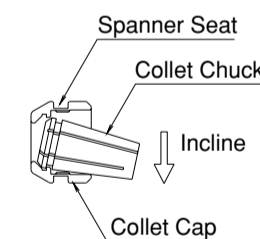

Fig. 5
- ② When removing the collet chuck from the collet cap for cleaning or replacing, hold the collet cap in one hand and incline the collet chuck toward the spanner seat. (Fig. 5)
- ③ To mount the collet chuck, incline the collet chuck toward the spanner seat and insert. (Fig.5)